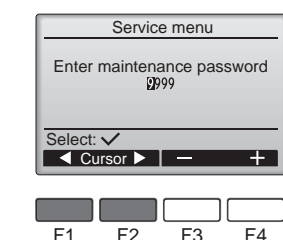

Fig. 7-2
- ① Select "Service" from the Main menu, and press the [✓] button.
- ② When the Service menu is selected, a window will appear asking for the password. (Fig. 7-2)